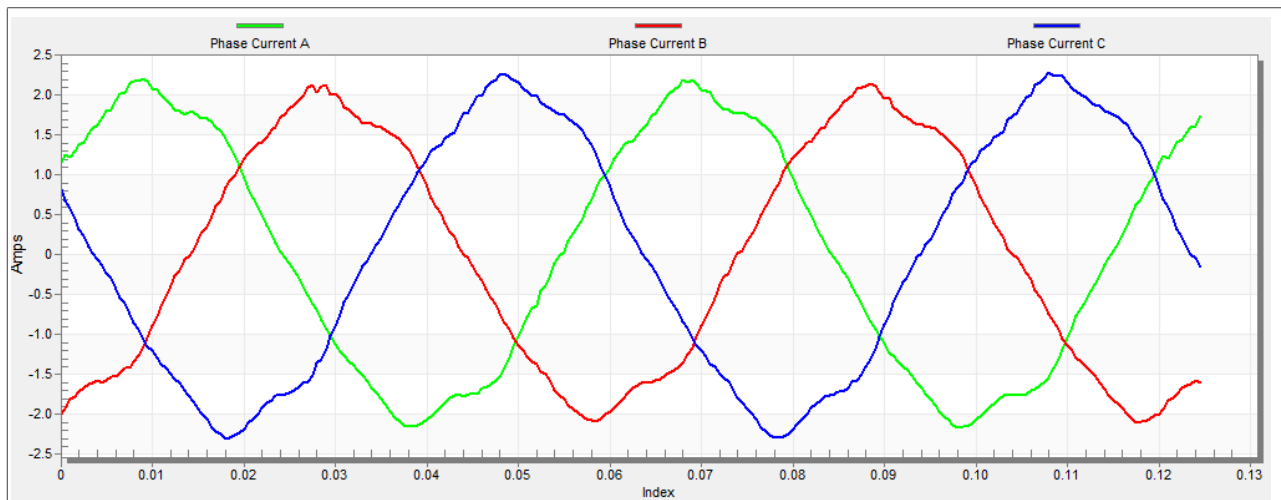

Figure 17. Phase currents
5. The optimal ratio for the V/Hz profile can be found by changing the V/Hz factor directly using the "M1 V/Hz factor" variable. The shape of the motor currents should be close to a sinusoidal shape (Figure 17). Use the following equation for calculation V/Hz factor: